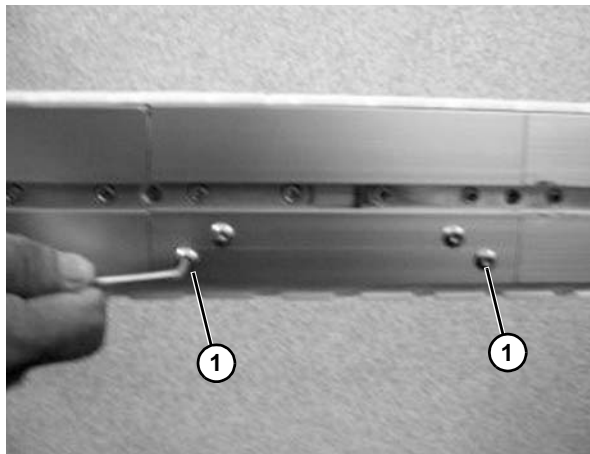

Figure 54
1. Loosen the screws (**Figure 54, item 1**) on the beam section flanges.